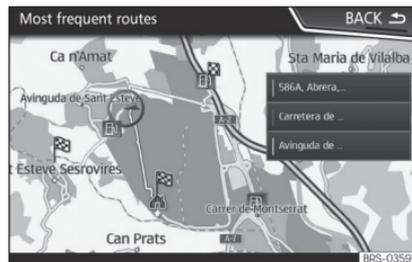

Fig. 187 Predictive navigation
- On the main screen of the Navigation menu, in the pop-up window, press the **FREQUENT ROUTES** button. To display frequently followed routes press the **Show on map** button »» Fig. 187.